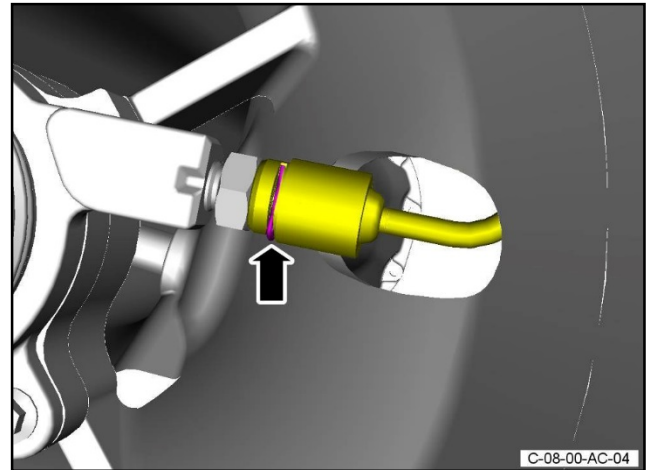

Figure 3
3. Remove the spring clip that attaches the fluid supply pipe to the slave cylinder (refer to Figure 3).